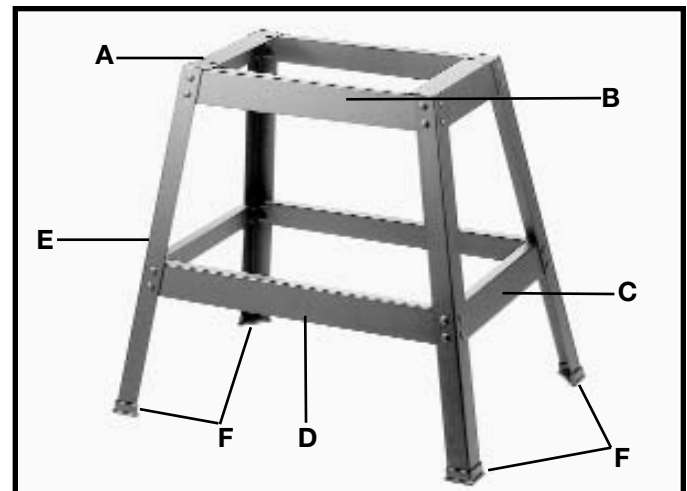

Fig. 4
1. Assemble the 50-780 stand (Fig. 4) using the 32 carriage bolts, flat washers and nuts supplied. The two 11-1/2" long upper braces (A); 21-5/16" long upper braces (B); 17-1/8" long lower braces (C); and 26-5/8" long lower braces (D) should be fastened to the four 27-1/2" long legs (E). **IMPORTANT: The top lips of the upper braces (A) should be over the top lips of upper braces (B).**
2. Attach a plastic foot (F) Fig. 4, to the bottom of each leg (E).